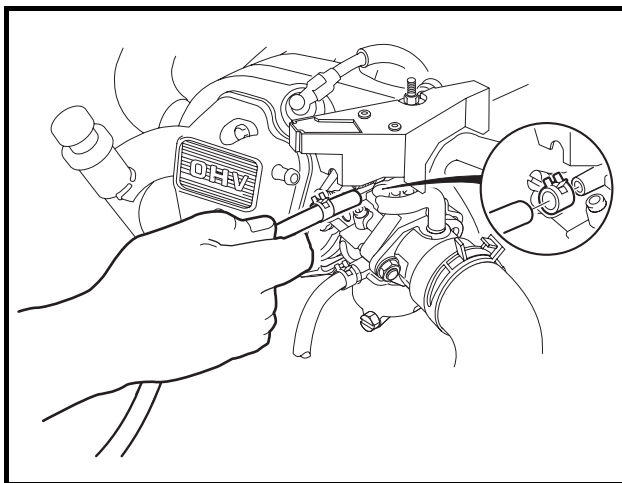

Figure 16-54 Carburetor Tube
29. Connect carburetor vent tube to carburetor and secure with hose clamp (**Figure 16-54, Page 16-21**).